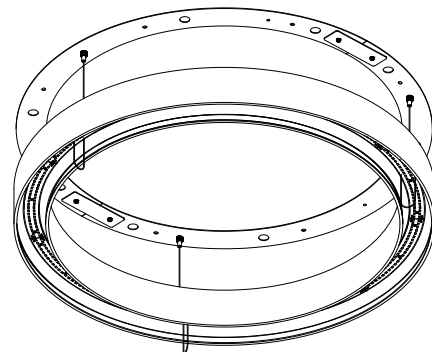

Fig. 6 Housing leveling (lenses not shown).
5. Once fixture completely assembled, it need to be mounted to the support plate(s) as shown on Fig. 6. Follow all installation steps for single segment fixture above to complete installation. See 150-000037 (last page) for remote box installation instruction.